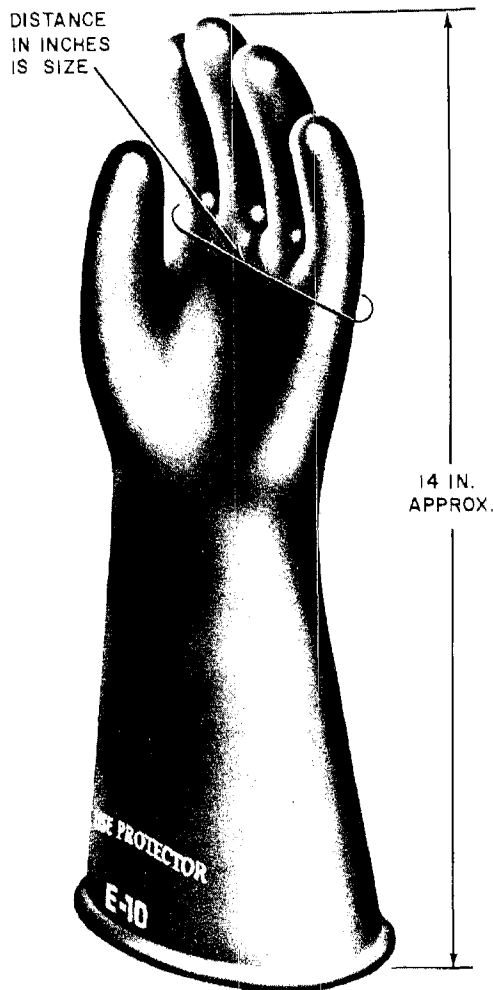

Fig. 1—E Insulating Glove
2.01 All types of insulating gloves are of the gauntlet type and are made in four sizes: 9-1/2, 10, 11, and 12. The size indicates the approximate number of inches around the glove, measured midway between the thumb and finger crotches. The length of each glove, measured from the tip of the second finger to the outer edge of the gauntlet, is approximately 14 inches (Fig. 1).